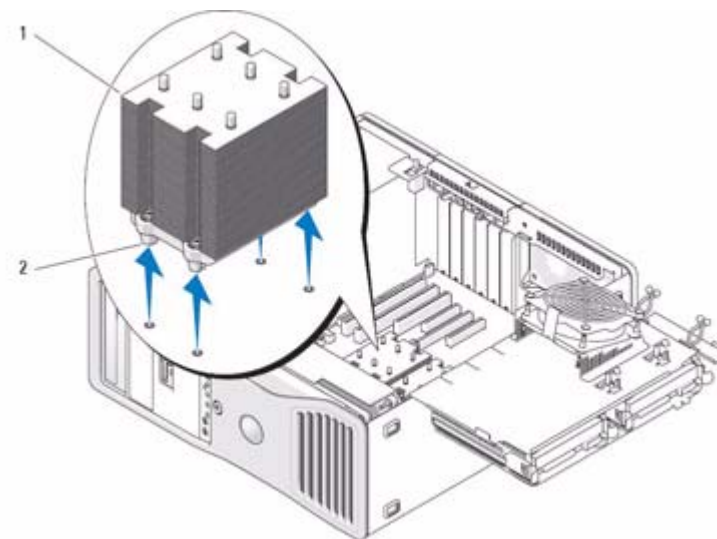

Figure 24:
5. Release the four captive screws on the sides of the Heat-sink Assembly as shown in Figure 24 on page 33.